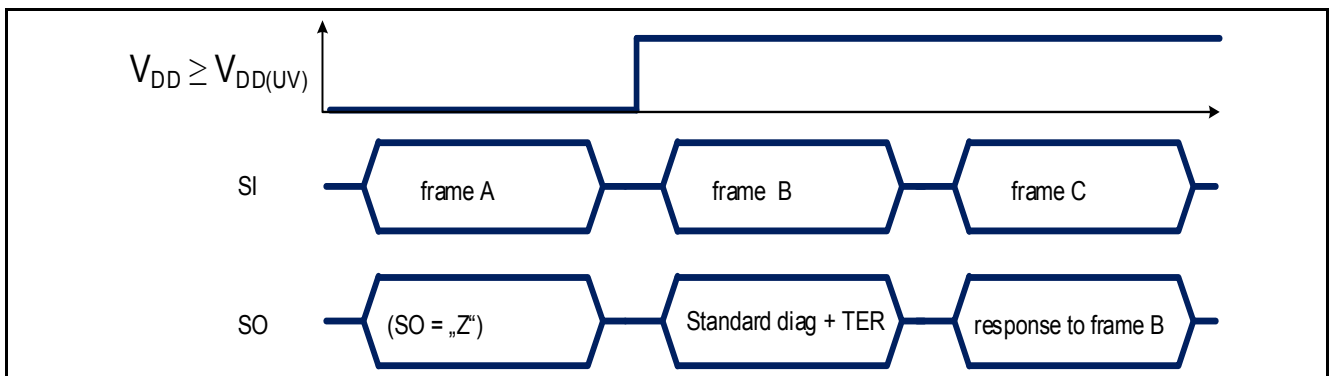

Figure 46 TLD5541-1 response after coming out of Power-On reset at V_{DD}
- when TLD5541-1 logic supply comes out of an Undervoltage reset condition ($V_{\text{DD}} < V_{\text{DD(UV)}}$) as shown in Figure 46 or $\text{EN/INUVLO} < V_{\text{EN/INUVLOth}}$)